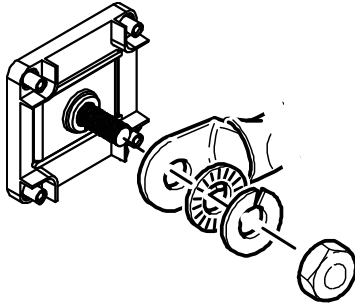

Figure 8 DC Cable Connections
Use only appropriately sized copper cable. Loose connections, improper connections, and under-rated cables will overheat. Make sure that the supplied bolts on the inverter/charger are tightened to a torque of 15–16 ft-lbs (20.4–21.7 Nm). Torque all other connections to the manufacturer’s specifications. Make sure the DC cable, washers, and bolt are assembled in the order shown in Figure 8.
4. Connect one connector on the POSITIVE (+) cable to the POSITIVE DC terminal on the inverter/charger, as shown in Figure 8. The connector goes on first, then the flat washer (steel), lock washer (steel), and 3/8" bolt (brass).
6. Connect one connector on the NEGATIVE (–) cable to the NEGATIVE (–) DC terminal on the inverter/charger, as shown in Figure 8. The connector goes on first, then the flat washer (steel), lock washer (steel), and 3/8" bolt (brass).